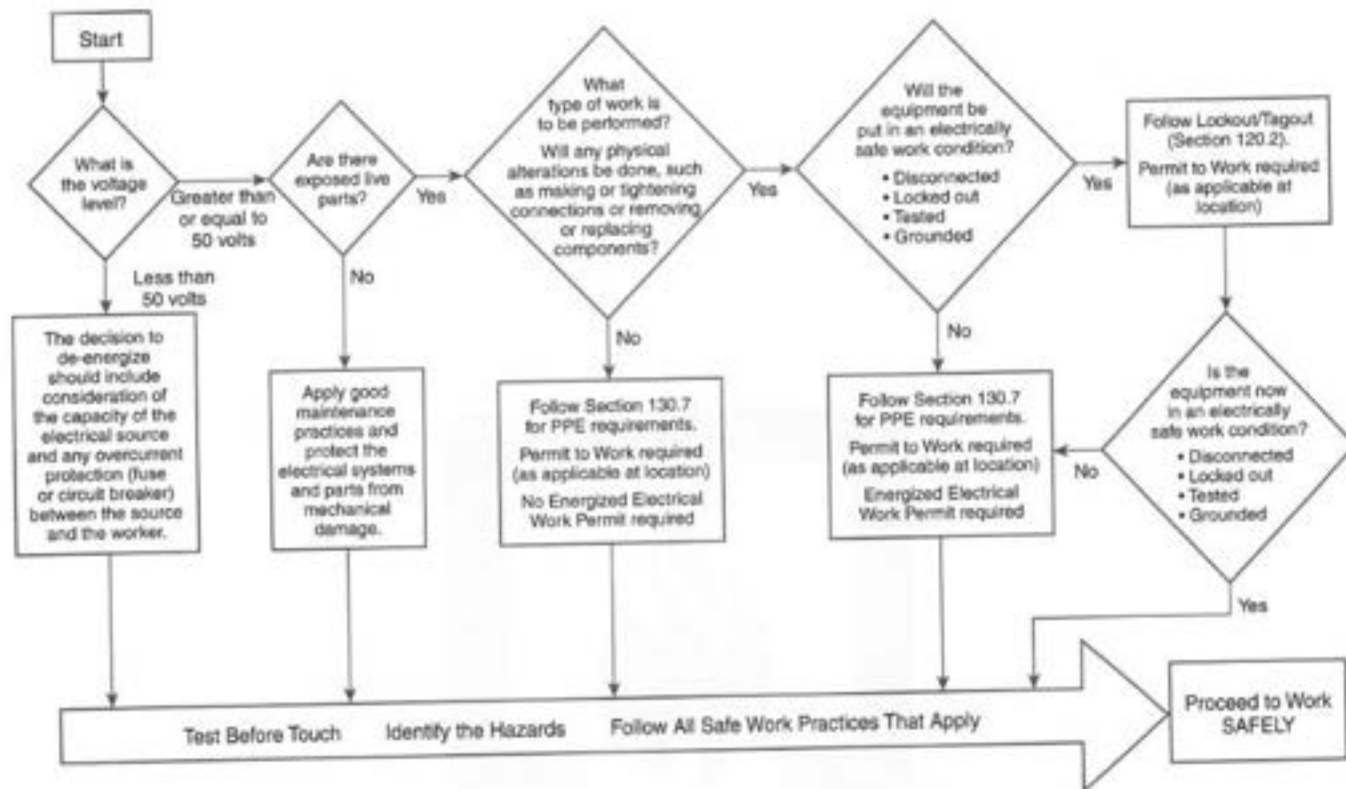

FIGURE J.2 Energized Electrical Work Permit Flow Chart.
J.2 Energized Electrical Work Permit. Figure J.2 illustrates items to consider when determining the need for an energized electrical work permit.